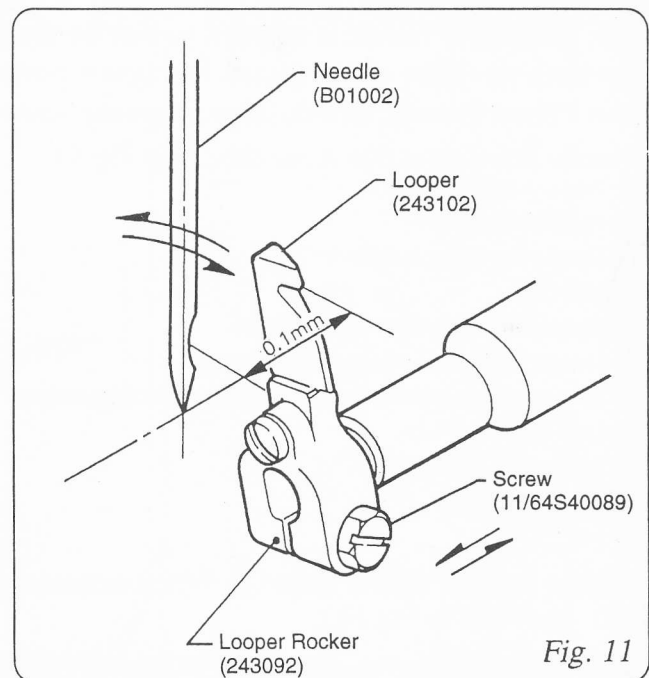

Fig. 11
2. Position of Needle and Loper (Fig.11)
Looper must pass the concave part of Needle with clearance of 0.1 mm as shown in Fig.11. Adjustment of the clearance can be done after loosening the screw of Loper Rocker.